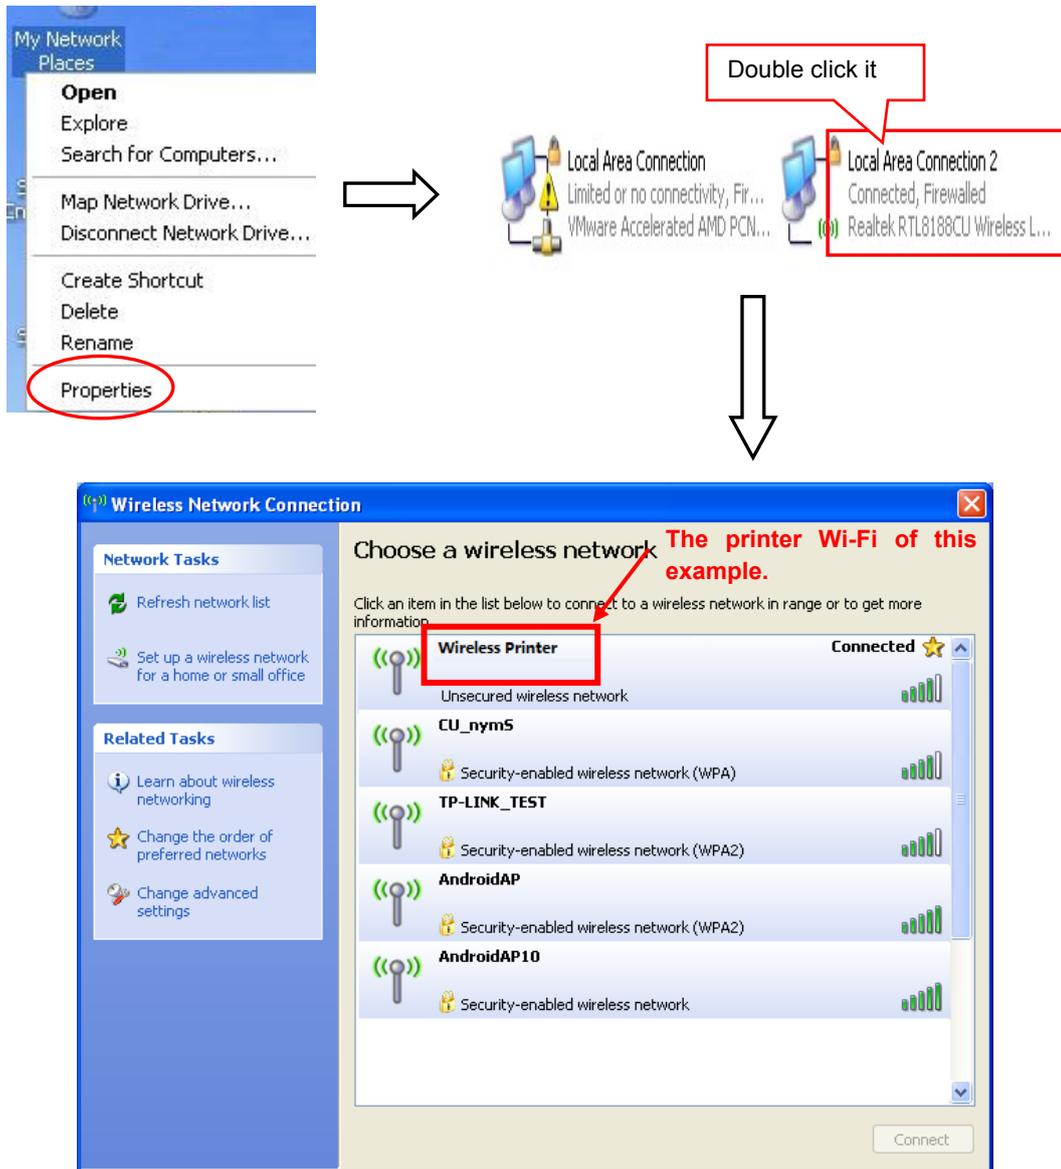

Figure 1
2. Right click “My Network Places”, and then click “Properties” to find the “Local Area Connection 2”. Double click it and the window of “Wireless Network Connection” pops up, select and double click the corresponding printer Wi-Fi name. The printer Wi-Fi default name is composed of “the printer model+6 numbers and letters” (as shown in Figure 1).